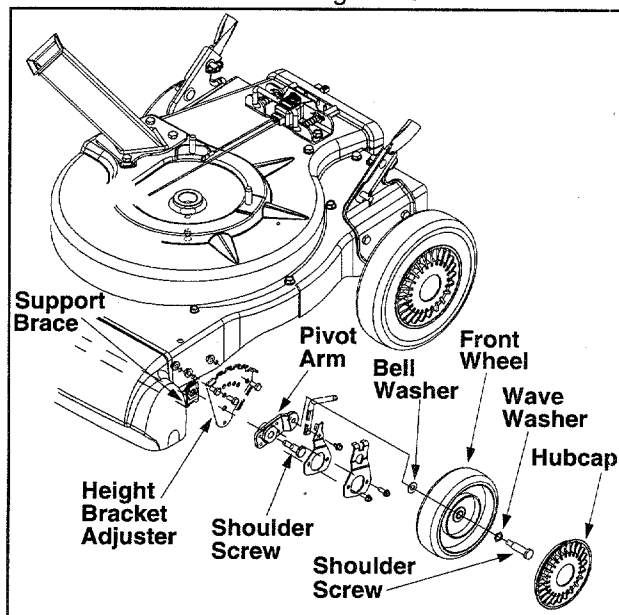

Figure 15
2. Remove the front hubcaps, shoulder screws, wave washers, and bell washers that attach to the front wheels. See Figure 15.
3. Remove the shoulder screws that go through the pivot arms and height bracket adjusters to the front support brace. See Figure 15.